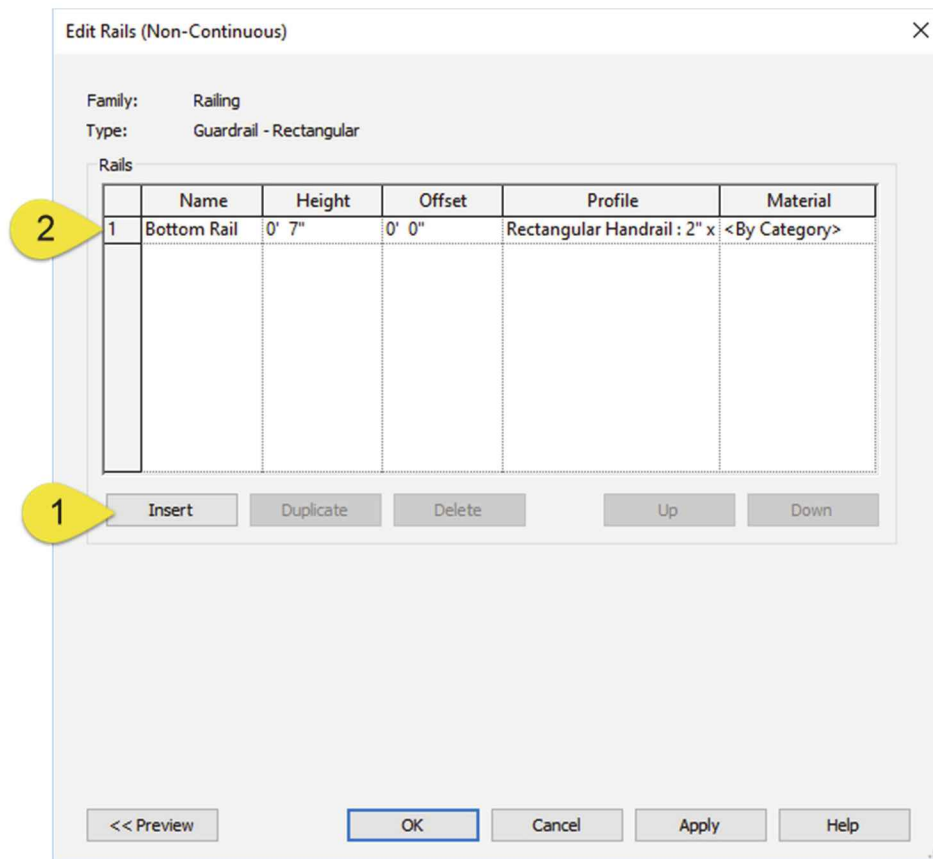

FIGURE 7-8.13 Adding “horizontal” rail to railing
21. Click the **Insert** button (#1, Figure 7-8.13).
22. Make these changes (#2, Fig. 7-8.13):
FYI: This option “Bottom Rail” comes from the name you provided in the *Rail Structure* dialog (Figure 7-8.13).